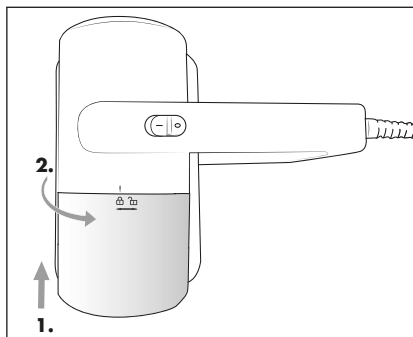

Fig. 9
- 8) Insert the dust container ④ into the appliance so that the marking on the appliance is over the symbol  (open). Turn the dust container ④ clockwise until the marking on the appliance is over the symbol  (closed) (Fig. 9).